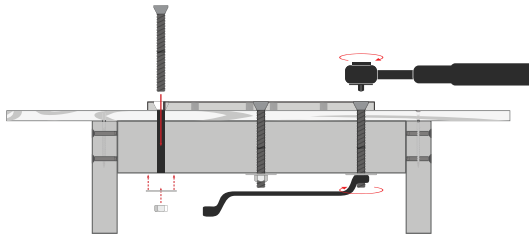

FIGURE 5
6. **(FIGURE 5)** Place Deck Plate on the drilled holes, attach hardware and secure from the underside of the joists.